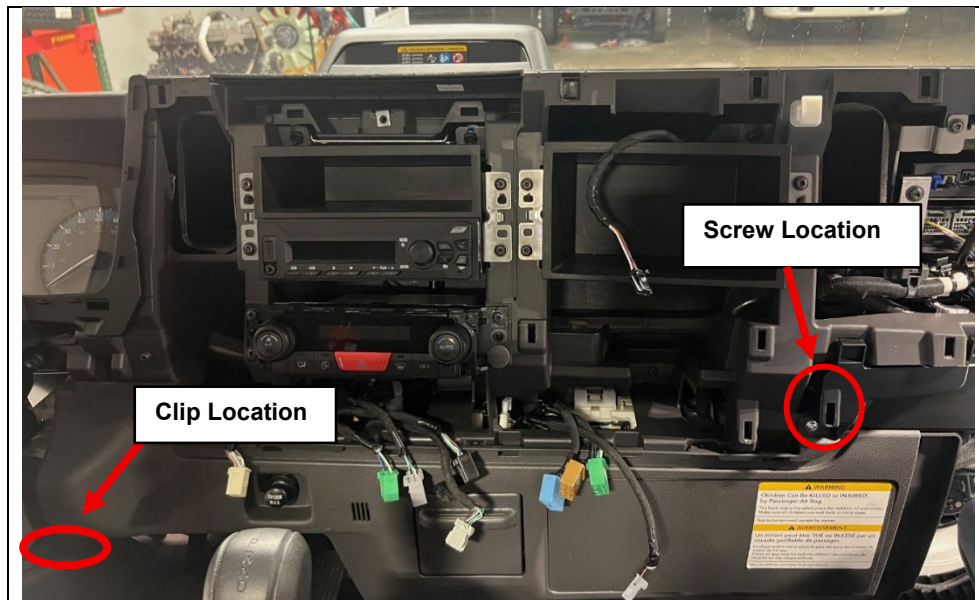

Figure 20
21. Remove the screw from the lower instrument panel under cover. Remove the plastic clip holding the lower instrument panel under cover on the bottom left-hand side. (See Figure 20.)